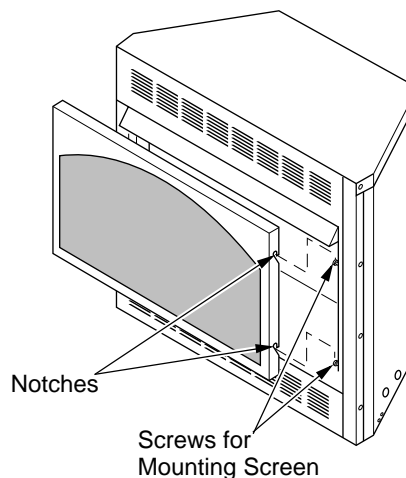

Figure 32 - Installing Fireplace Screen (Model VYGF33NRA shown)
2. Install fireplace screen by slipping notches of fireplace screen over screws on front of fireplace (see Figure 32).